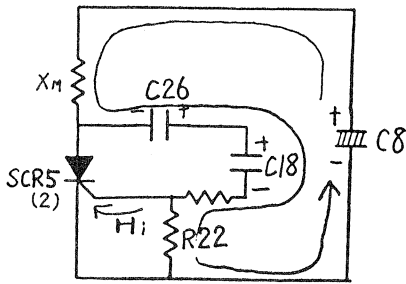

Fig. 9
- [F] SCR-5 (II) is turned on through the circuit shown in Fig. 9.